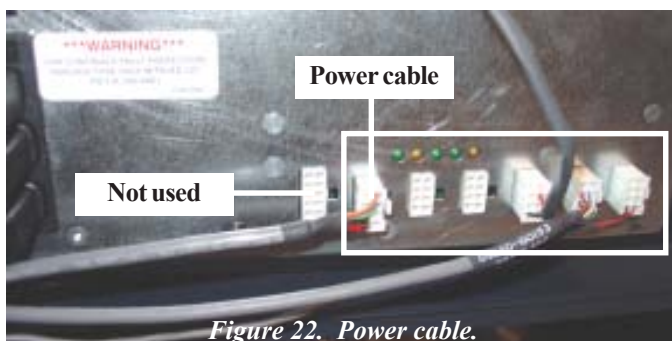

Figure 22. Power cable.
- ➡ Connect the power cable to any available DC output shown in Figure 22. **Note: Advise connecting cable to the output shown. This will allow more accessibility with door open.**